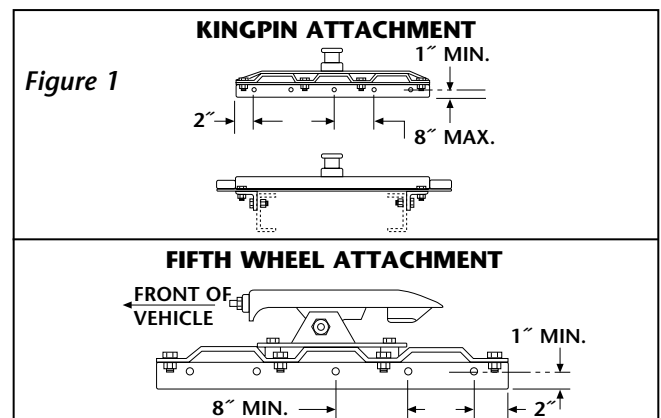

Figure 2
- B. Initially position the coupler plate in the box or on the frame in the desired position (at least 2" ahead of the rear axle). If possible, the coupler plate should be attached using a full-length mounting angle (3" x 3" x 5/16" minimum, ASTM A-36) on each side (see Figure 2).
- C. A minimum of four (4) Grade 8, 1/2" diameter (minimum) bolts must be applied to attach each mounting angle to the frame rail.